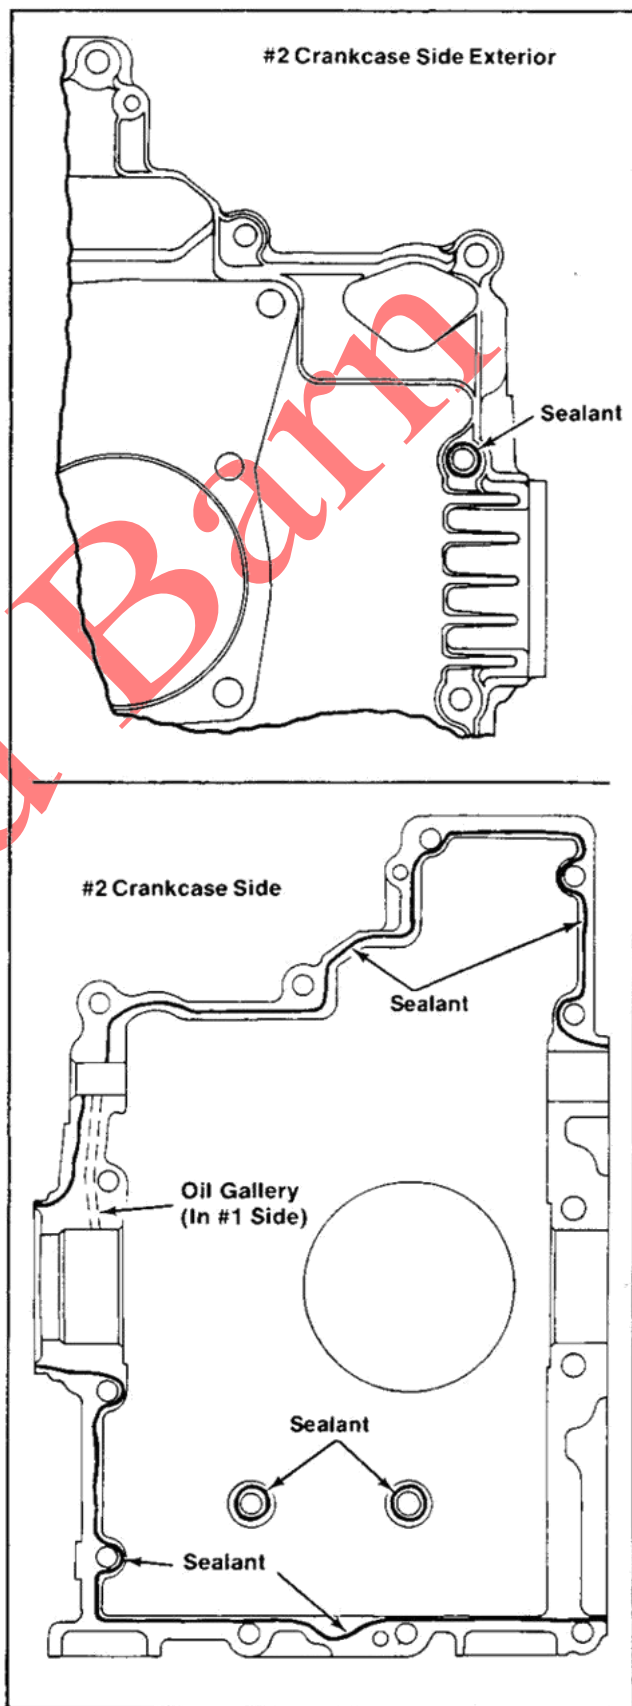

Figure 11-16. Crankcase Sealant Pattern.
2. Apply a $1/16$ " bead of sealant to the **#2 crankcase side** as shown in Figure 11-16. Follow the sealant manufacturer's recommendations regarding "setting." Recommended sealants are listed in the table on the following page. Silicone sealant Kohler part no. 52 597 01.